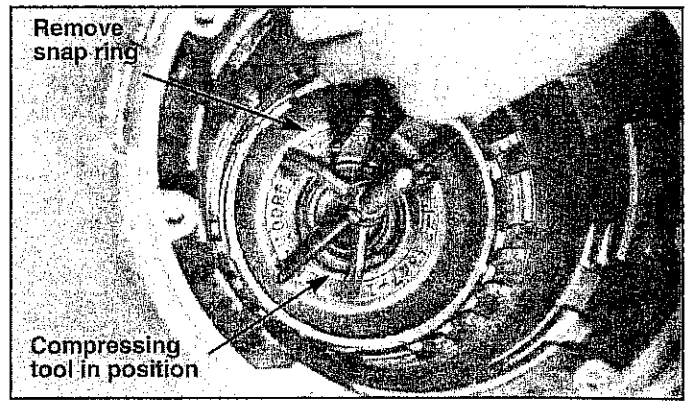

FIGURE 20
STEP 27. Use a suitable tool to compress the low and reverse clutch piston spring retainer (Hayden Transtool #T-0151). (See Fig. 20) Remove the snap ring and slowly release the tool. Remove the retainer and seventeen piston return springs. Note